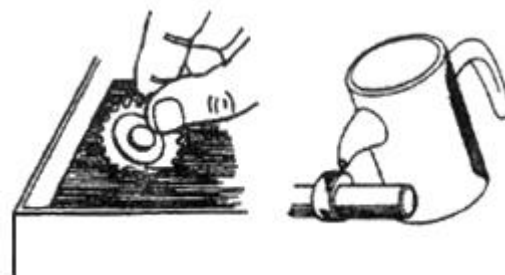

Figure 4-3: Clean and Lubricate Parts
4. See Figure 4-3. Clean parts thoroughly in a commercially available solvent upon disassembly. Lubricate any sliding surfaces with specified lubricant before assembly.